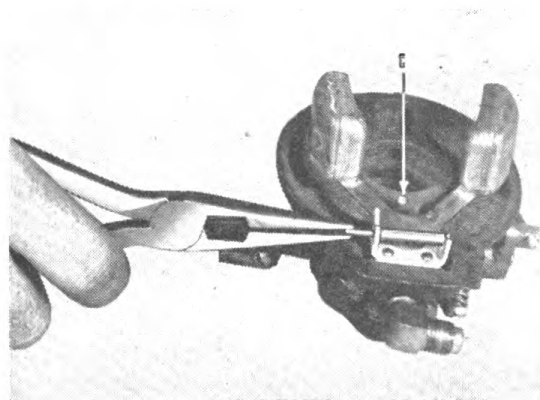

**Figure 105
(3) Remove and clean idle tube. Pliers can be used for removing (See Figure 105).